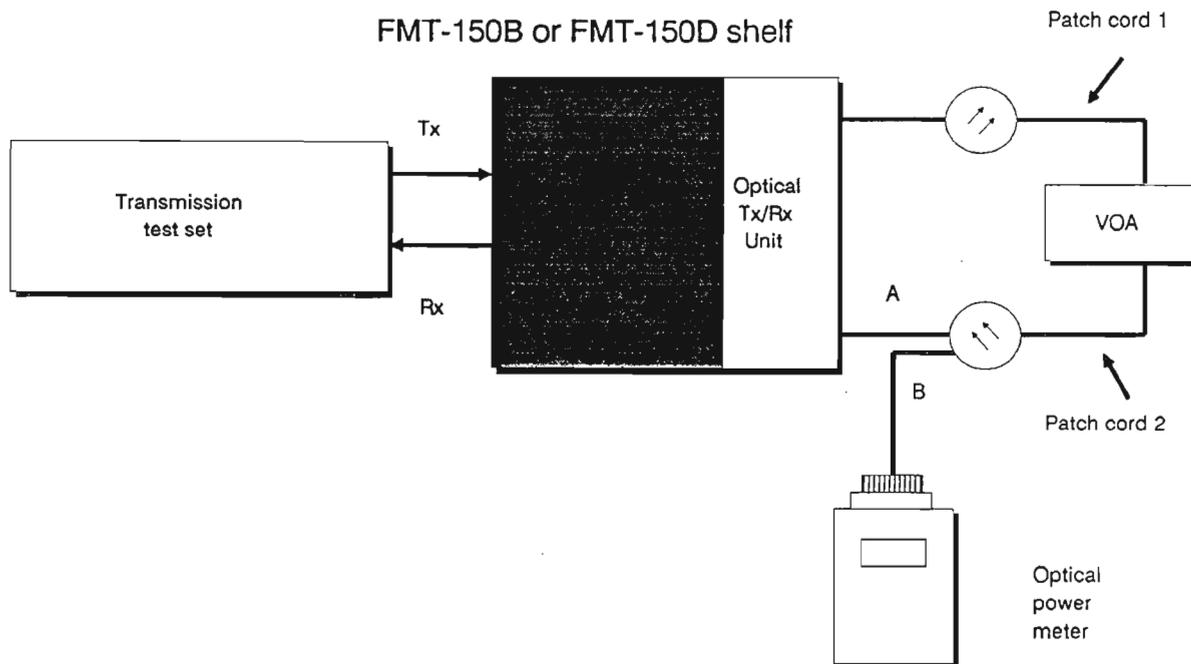

Figure 4
Ref. Fig. 4
1. Loopback Optical Tx/Rx Unit A, through a VOA, using patch cords (configuration A in Figure 4).